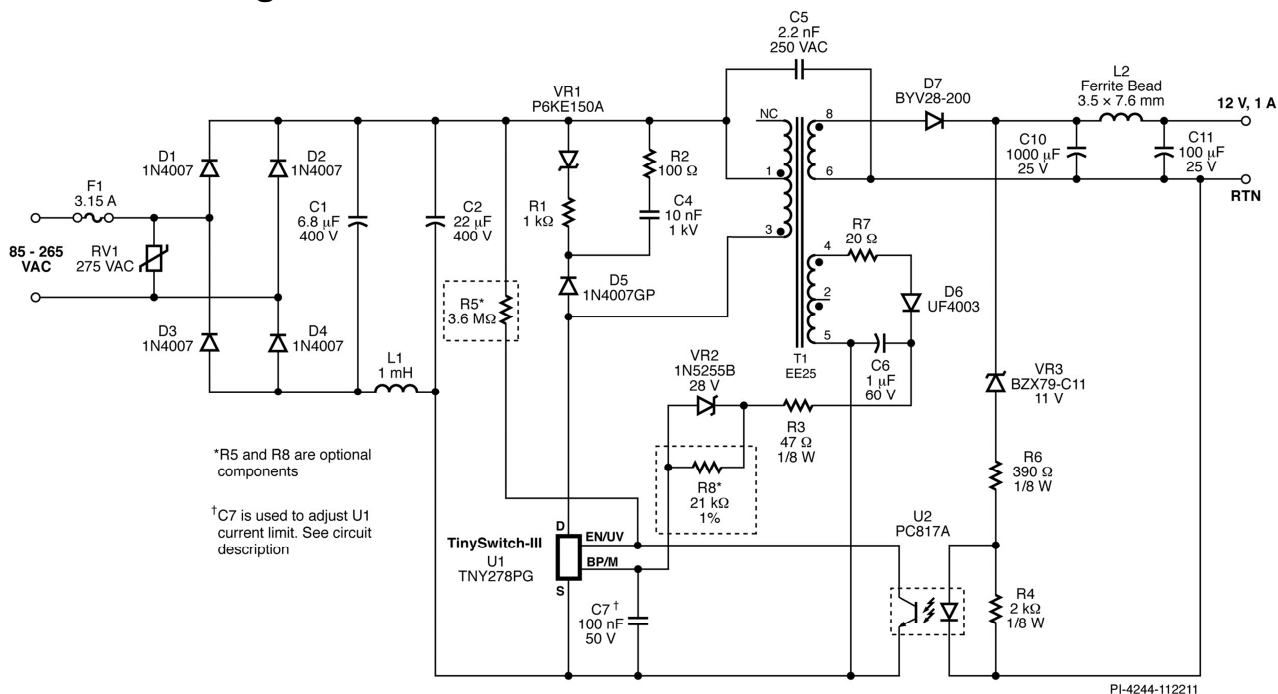

Figure 2 – Schematic.
This flyback power supply was designed around the TNY278PG (U1 in Figure 2). The output voltage is sensed and fed back to U1 through optocoupler U2. That feedback is used by U1 to maintain constant voltage (CV) regulation of the output.